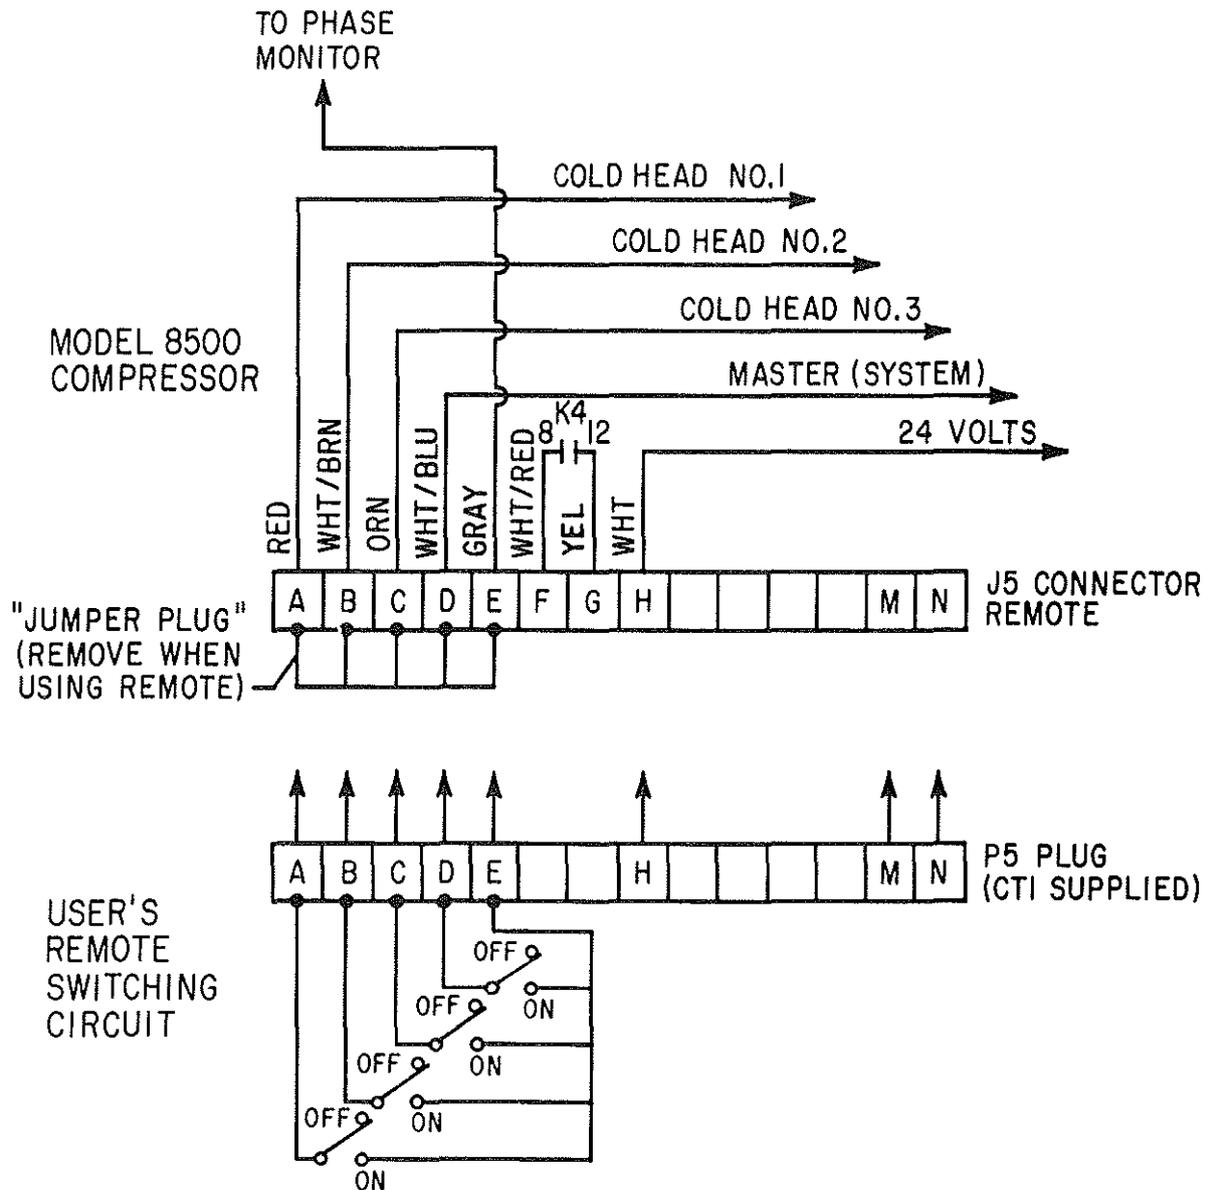

Figure F.1 Remote high-vacuum pump switching schematic
An electrical schematic is provided, see Figure F.1, for fabrication of an external switching circuit. This feature provides the capability for remote ON/OFF switching of the complete system (compressor and all cold heads) and for individual switching of electrical power to each of the cold head connectors J2, J3 and J4. It is not mandatory that all three remote switching features be utilized simultaneously. The switching circuit is connected into the control module of the compressor by means of the 14-pin system remote connector J5, which is located at the rear of the control module. Note that a J5 jumper connector is installed on the compressor as shipped. Refer to Figure 1.1, page 1-4, for location of the connector.
1. Uncouple the J5 jumper connector from the compressor. Wire the remote connector using 18-gauge stranded copper wire and a remote switch or relay contact with a minimum rating of 150mA at 24 VAC. Follow the schematic in Figure F.1, ensuring compliance with all national, state and local standards.